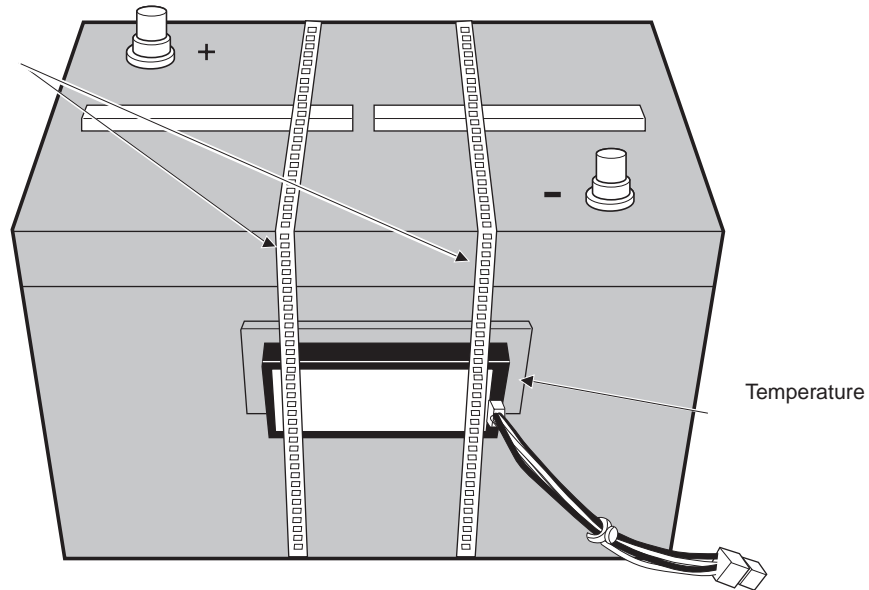

Figure 24. Temperature Compensation Module Installed
- 9 Attach the temperature compensation module to the battery, using the long cable ties supplied as shown in Figure 24 on page 31. Place the module low on the front of the battery, so that it will fit under the battery connector bus. Tighten the cable ties securely, and verify that the module is held firmly in place. Trim any excess cable tie.
- 10 Push the battery with the temperature compensation module into its installed position Figure 24 on page 31. Connect the plug-ended leads from the module to the mating plug on the sense leads in the battery drawer.